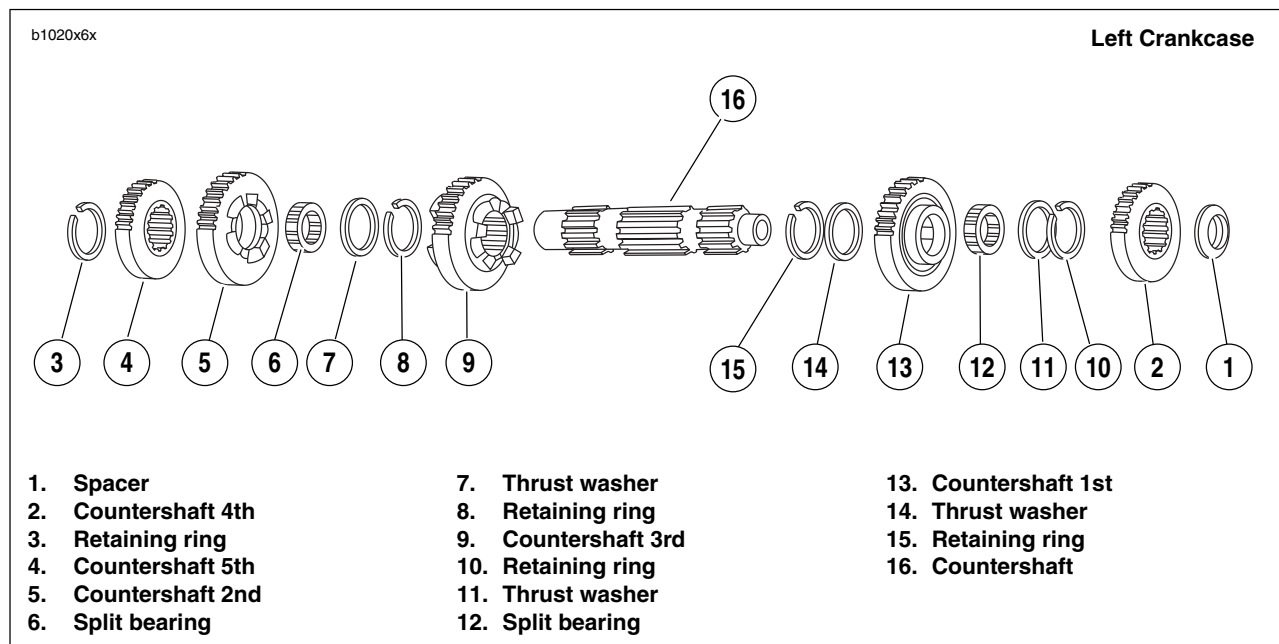

Figure 6-64. Transmission Countershaft Assembly Once Removed from Left Crankcase/Disassembly
- See Figure 6-64. Remove spacer (1) and countershaft 4th gear (2) from the end of the of the countershaft with internal threads.
- Using RETAINING RING PLIERS (Part No. J-5586), remove and discard retaining ring (3) next to countershaft 5th gear (4).
- Slide countershaft 5th (4), and countershaft 2nd (5) off end of countershaft.
- Remove split bearing (6) that was under countershaft 2nd gear (5) and thrust washer (7).
- Remove retaining ring (8) on the countershaft and slide countershaft 3rd gear (9) off free end of countershaft.
- Expand retaining ring (10) located next to countershaft 1st gear (11). Remove retaining ring (10) and thrust washer (11).
- Slide countershaft 1st gear (13) off end of shaft.
- Remove split bearing (12).
- Remove thrust washer (14). Expand remaining retaining ring (15) and slide off countershaft.